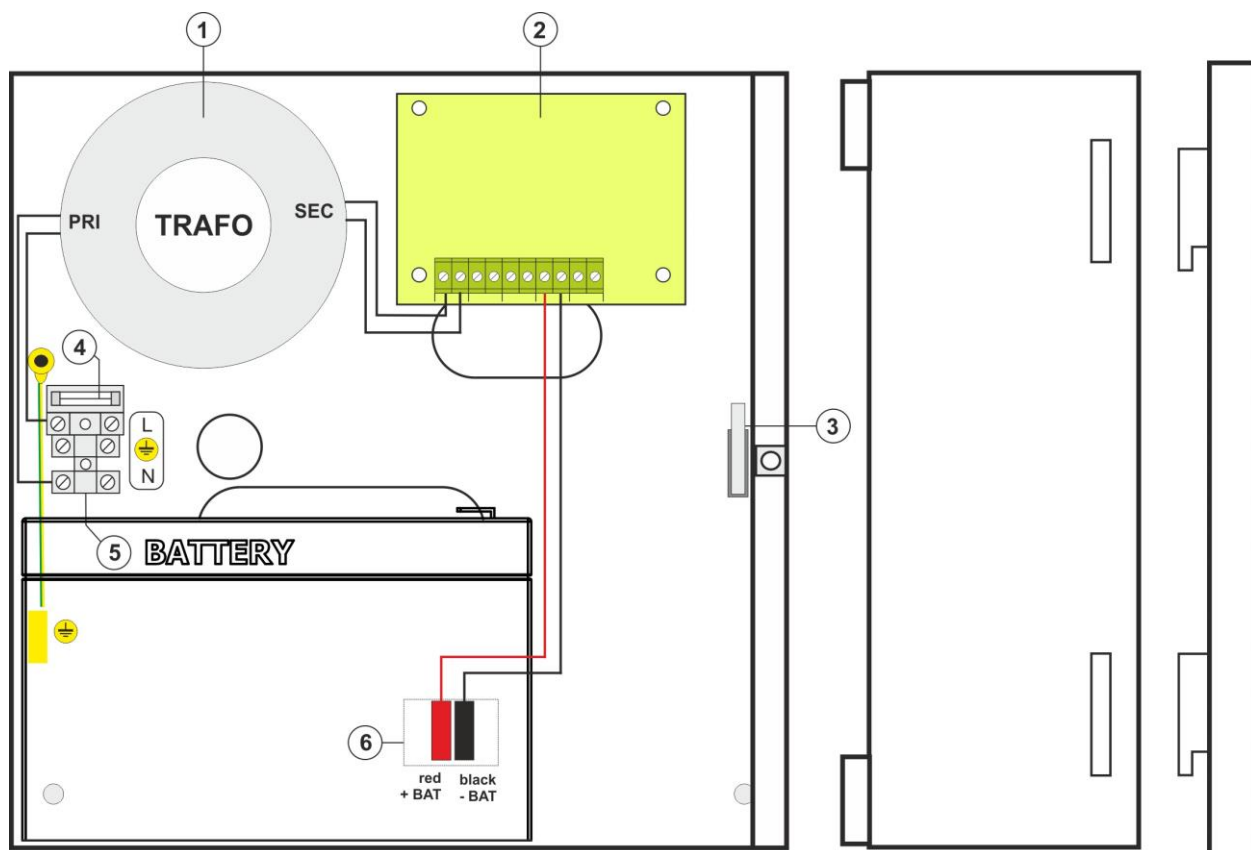

Fig.3. View of PSU.
6. Mount the battery in the battery compartment of the enclosure (Fig. 3). Connect the batteries with the PSU paying special attention to the correct polarity and type of connections (Fig.4):